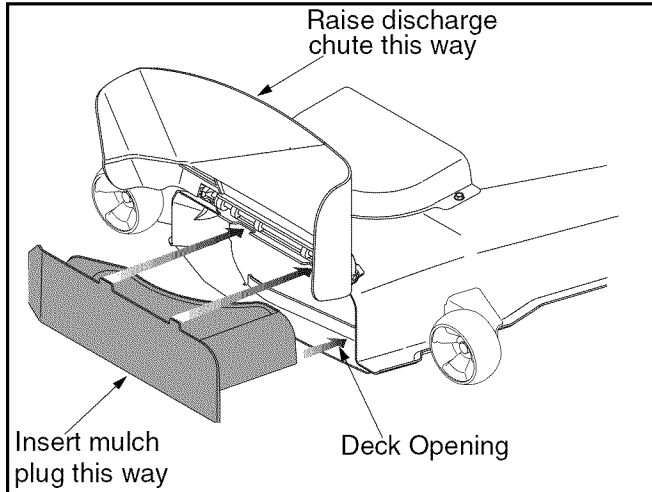

Figure 12
- Pivot the discharge chute up to access the deck opening. See Figure 12.